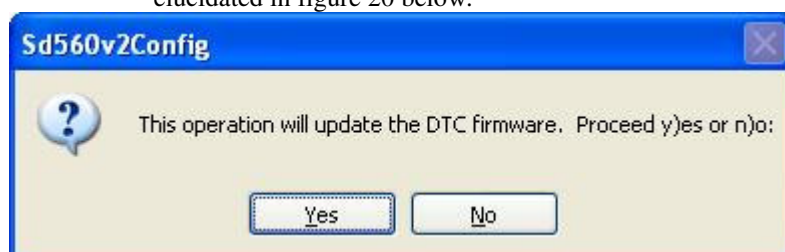
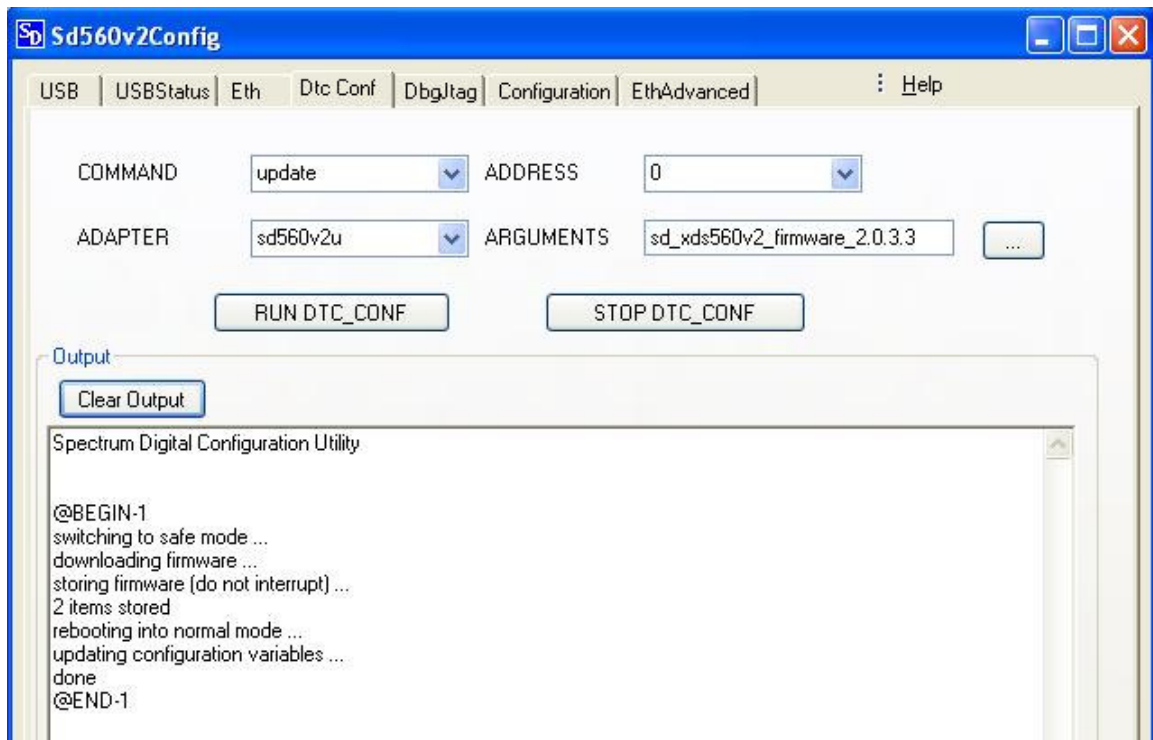

FIGURE 19: Sd560v2Config – Dtc Conf Tab update command popup window.
FIGURE 20: Sd560v2Config – Dtc Conf Tab update command.
5. Click on RUN DTC_CONF. A pop-up window as displayed in figure 19 below appears. Click on yes to update the firmware. A successfully completed output message is as elucidated in figure 20 below.